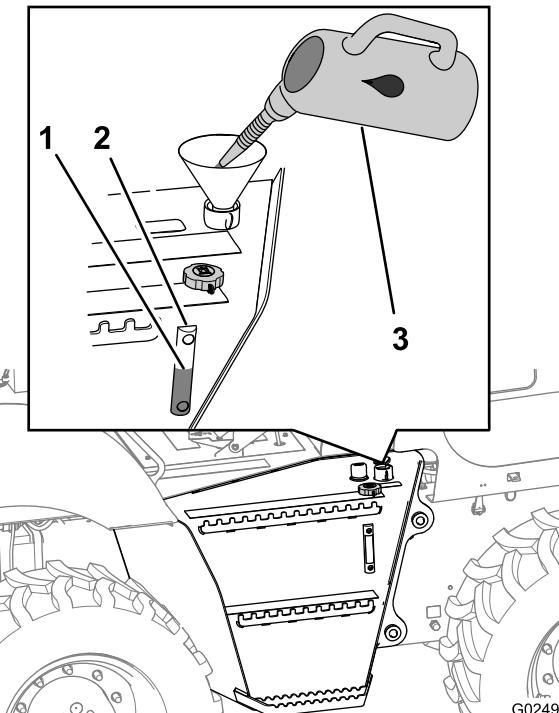

Figure 114
1. Fill the hydraulic-fluid reservoir with the specified hydraulic fluid until the fluid level is at the midpoint of the sight gauge (Figure 114).
3. Install the fill cap (Figure 114).